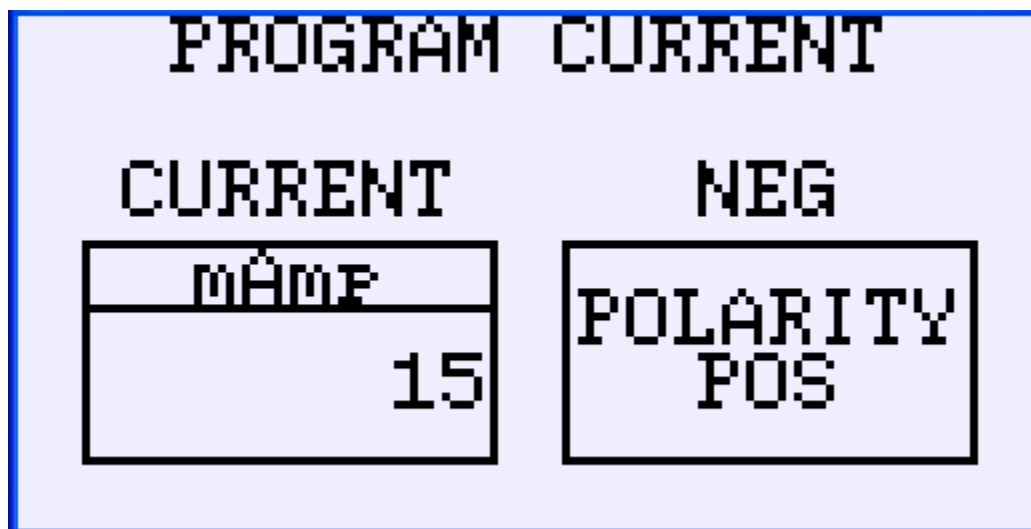

Figure 10
20. Press the **Next** function, this takes you to the **PROGRAM CURRENT** screen (Figure 10). This is the third of four auto run program screens.